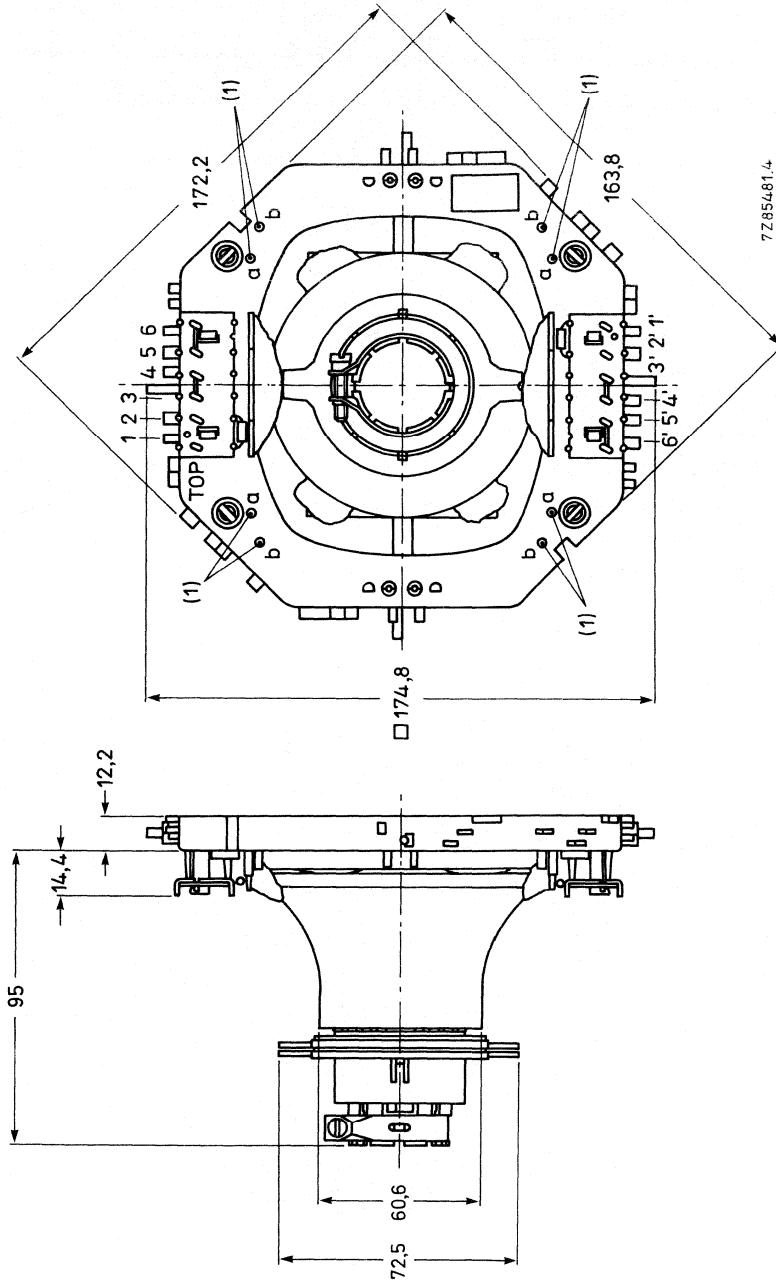

Fig.1 Deflection unit AT1039/03.
If a further improvement of raster geometry is required use can be made of correction magnets\*, which must be fitted to mounting posts (1). The unit has solder pins for connection. The pin numbering in Fig.1 corresponds to that in Fig.2.